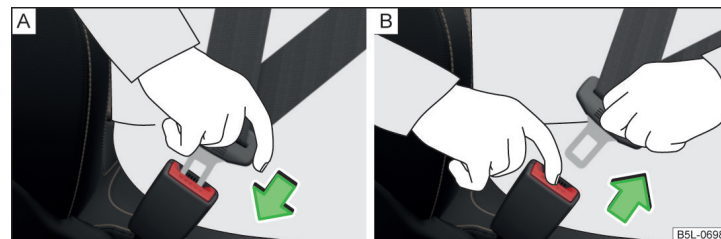

Fig. 7 Fastening/unfastening the seat belt
- › Insert the lock tongue into the belt buckle for the seat » Fig. 7 - [A] until it audibly clicks into place.
- › Hold the lock tongue and press the red button in the belt buckle » Fig. 7 - [B]. The lock tongue pops out.